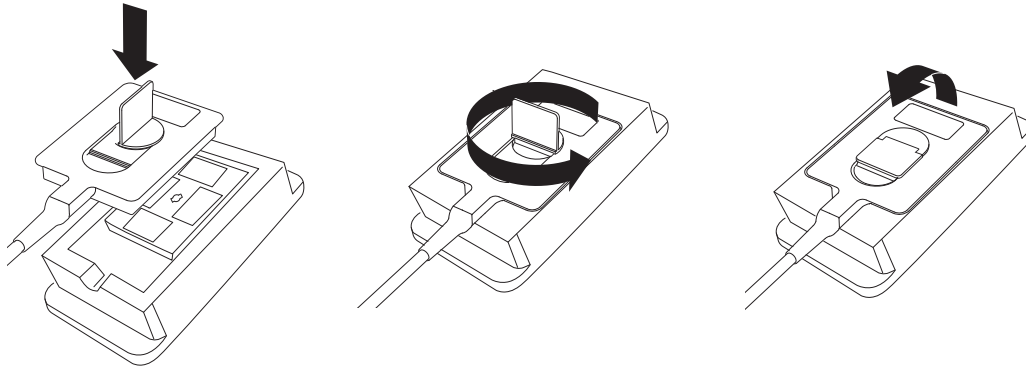

Figure 4-2 Insertion of the transducer connector
- 1 Insert the transducer connector into the transducer adapter as shown in **Figure 4-2**.